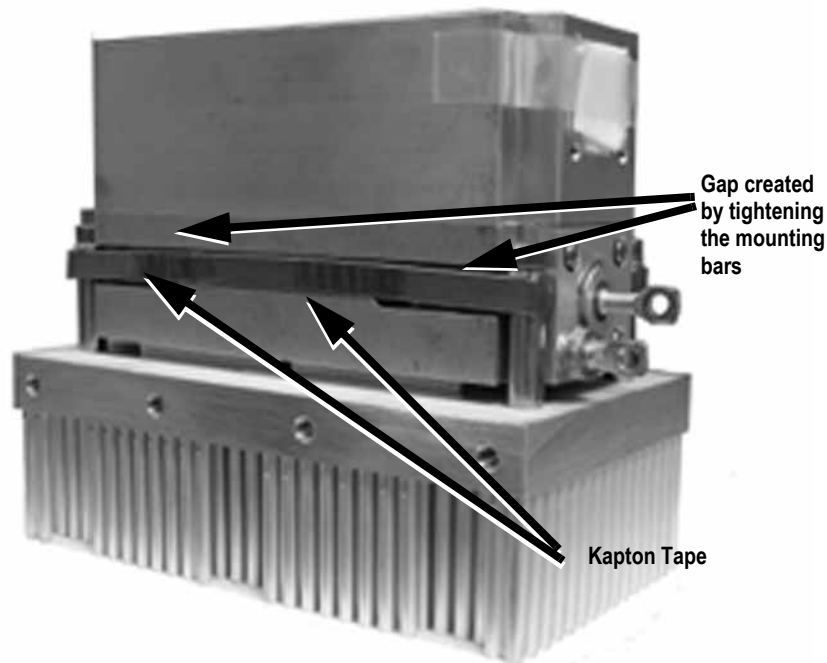

Figure 3-6. Electrically Isolated Head
b. If required, isolate the laser head using Kapton tape on the clamping bars according to Figure 3-6. Read "Diode Driver Requirements" on page 3-12 for more information regarding electrical isolation of the head.
Note that the diode anode is electrically connected to the case (positive ground). Depending upon their design, many diode drivers cannot work properly in a positive ground configuration. In such cases the laser must be isolated from ground, by floating the heat sink assembly, or by isolating the laser head from the heat sink. To isolate the laser case, use insulating locator pins (plastic or nylon) and isolate the clamps at the contact points using Kapton tape as shown in Figure 3-6.
If configuring the laser with a power supply incapable of handling a grounded anode, the head must be electrically isolated (See Figure 3-6). Failure to do so may damage the device from inadvertent electrical transients.